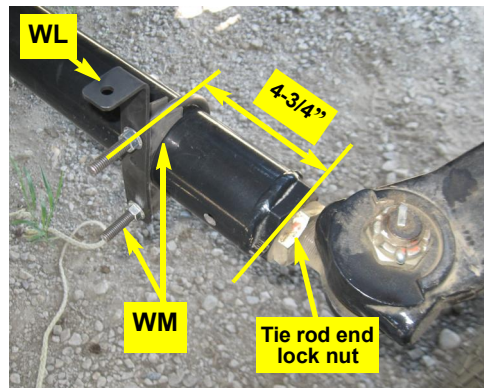

Figure 2c: WAS rod link mounting bracket installed
c. Using the remaining U-bolt **WM**, mount the link rod bracket **WL** on the tie rod. Mount the bracket vertically on the front of the tie rod with its short side upward and pointing forward. Set the bracket with the center of U-bolt **WM** 4¾" from the inner edge of the tie rod end lock nut. (Figure 2c).